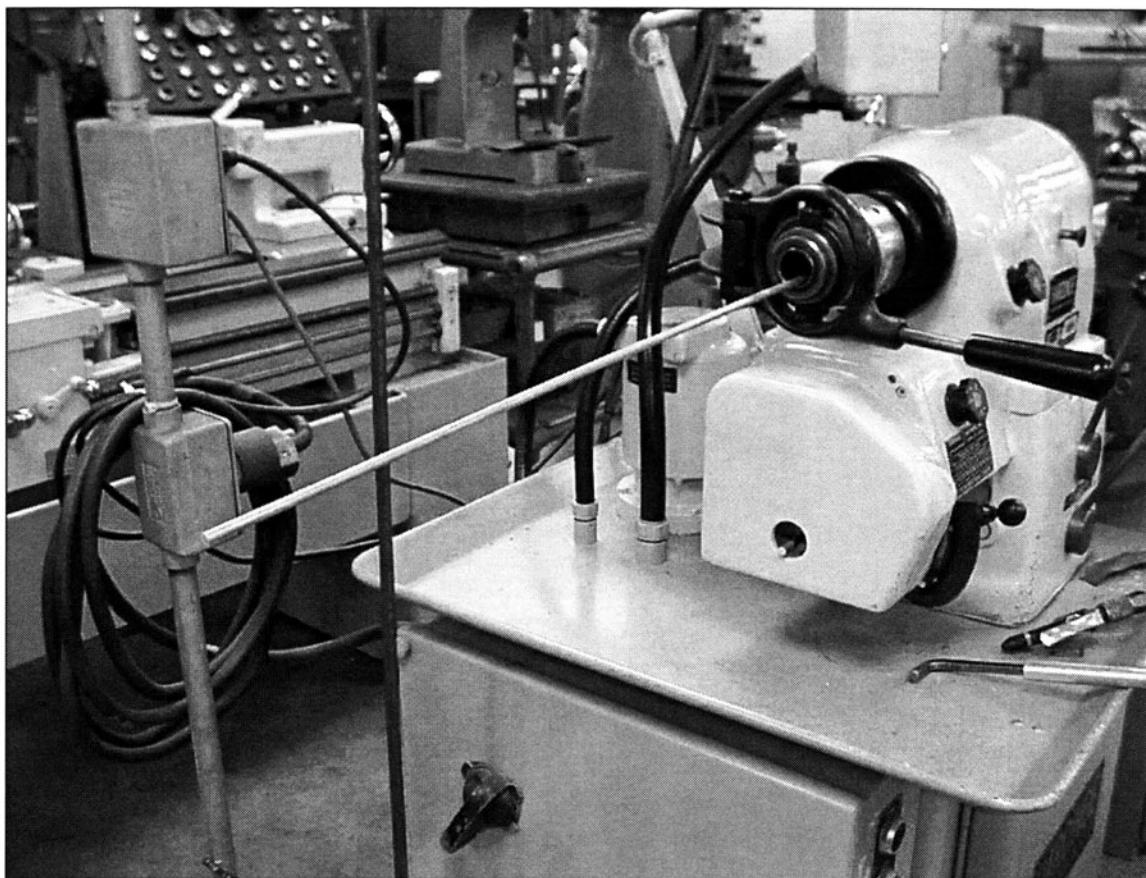

FIGURE 5-3 Bar stock that extends beyond the rear of a headstock can whip dangerously unless it is contained. It's a condition that must be avoided.
9. *Avoid extending bar stock much beyond the headstock of a lathe. (See Fig. 5-3)*